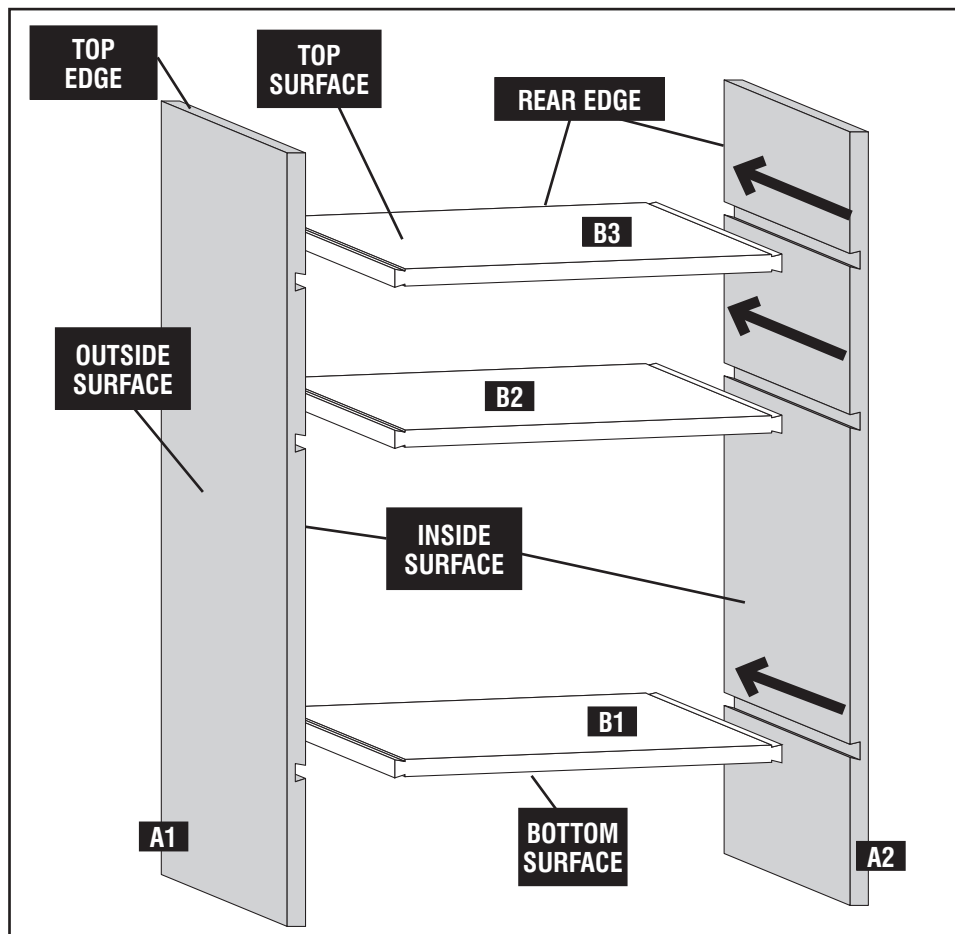
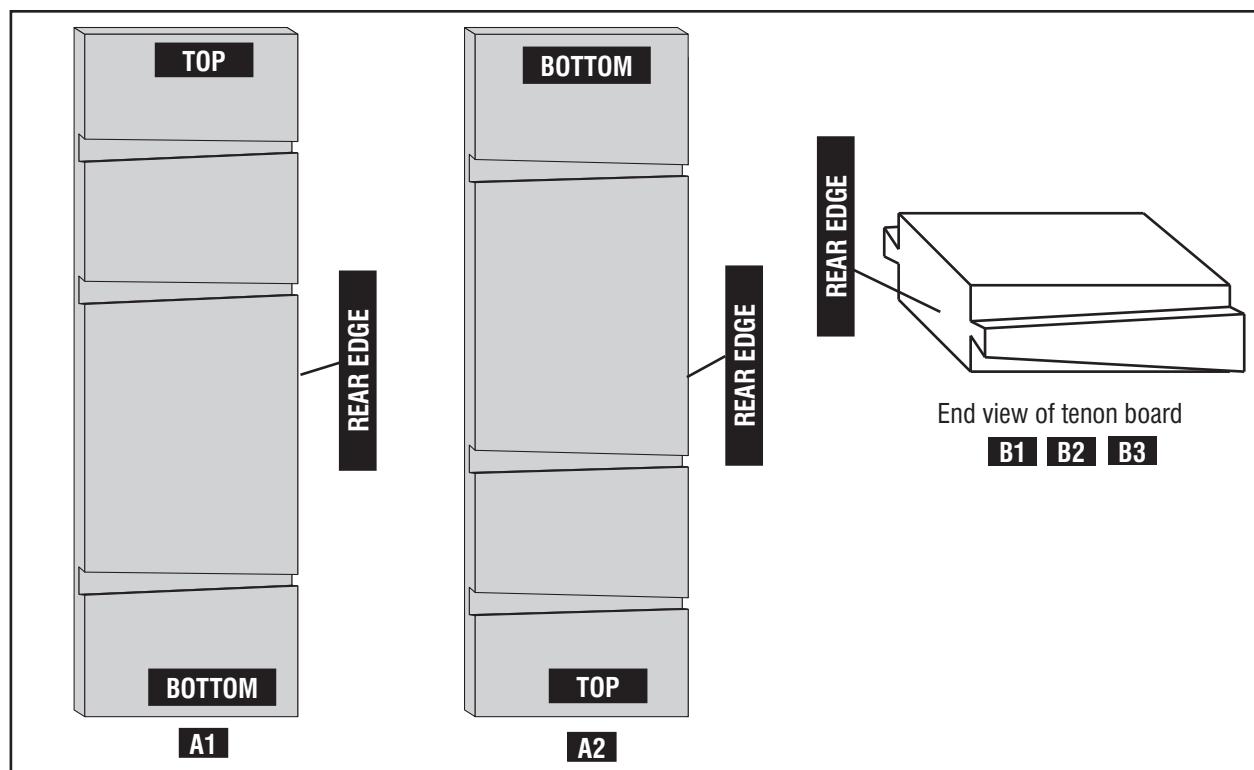
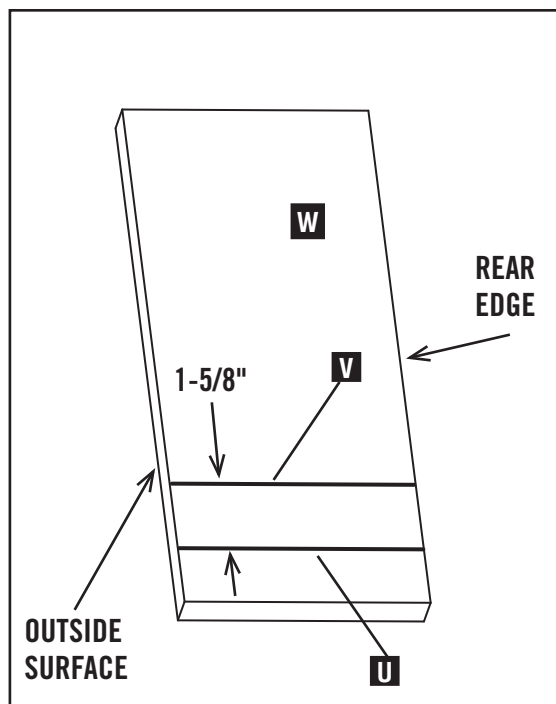

Fig. H3
Fig. H4
Fig. H15
Refer to Figure H3 throughout this example. H3 demonstrates how finished work pieces would be assembled while giving a general idea of how the shelf would look.
A typical shelf project will have two vertical side panels with several individual shelves, as shown in Fig. H3. Label the left vertical panel "A1," the right vertical panel "A2," and the individual shelves starting with "B1" as the bottom shelf, "B2" as the next higher shelf, etc. On each vertical panel, mark the rear edge, top edge, and outside surface. On each individual shelf, mark the rear edge, top surface, and bottom surface.
For the shelves (B1, B2 or B3) Fig. H3, the rear edge is mounted vertically to the left of the jig in order to cut the tenon.
After making the cuts for the project as laid out in Fig. H3, the cuts will look like boards A1 and A2 in Fig. H4. The exaggerated tapers in the dado and on the tenon (Fig. H4) help show the direction of the taper.
1. The dado board (vertical side panel, as shown at A1 or A2, Fig H3) will be mounted on the jig horizontally with the outside surface facing down and the rear edge aligned to the right of the jig base. With the board in this orientation, draw a straight line (U) Fig. H15 to mark the center of the dado. From this line, measure up the board 1-5/8" and draw another line (V) parallel to this first line.